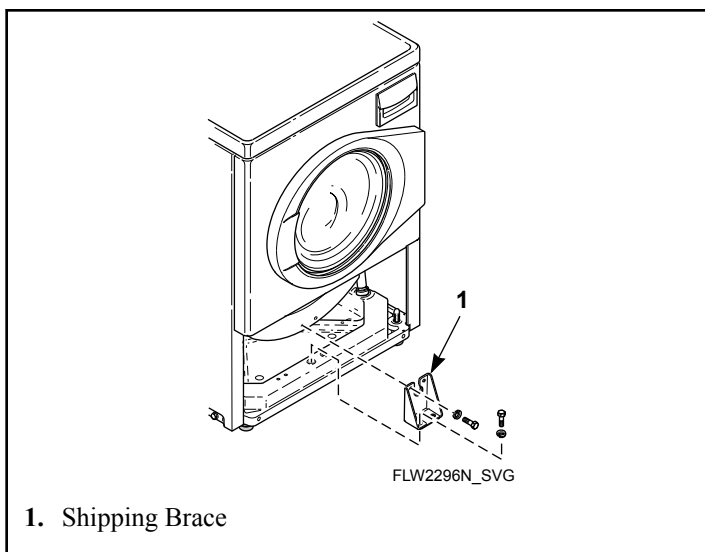

Figure 49
4. Attach shipping brace to weight and base using four bolts and washers. Refer to *Figure 49*.